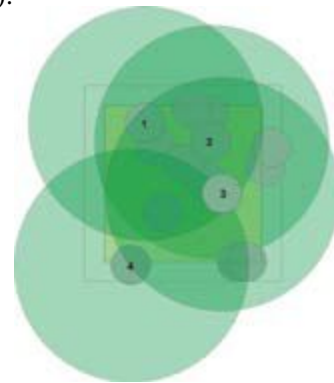
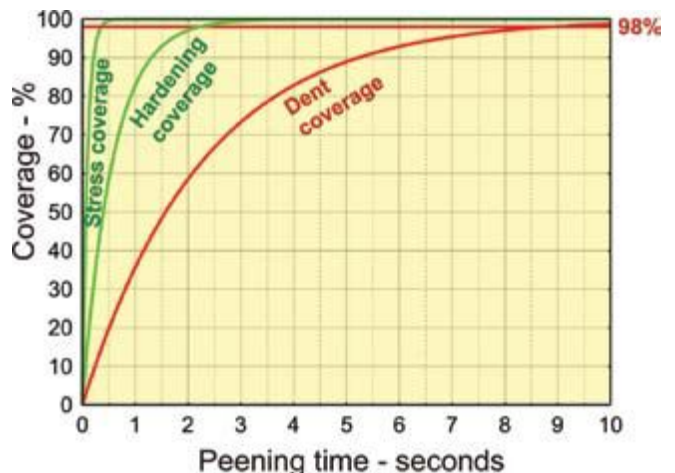

Fig.11. Complete stress coverage with just four dents.
Fig.12. Relative coverage rates for dents, hardening and surface residual stress.
Estimates based on equation (6) quantify residual stress coverage in the same way as those derived for dent coverage and hardening coverage. Such estimates confirm that stress coverage approaches 100% very, very rapidly - as illustrated in fig.12. The values given in Table 2 are astronomically small for any region receiving less than 9 overlapping compressively-stressed zones. A pictorial representation is given as fig.11 where just four dents (of the fourteen that generated 42% coverage in fig.4) have been surrounded by induced effective compressive residual stress zones five times the diameter of each dent. Here we have 100% coverage together with general overlapping of these beneficial compressive stress zones (shown green).
Optimum dent coverage occurs when desirable service properties reach their maximum. It is not, however, the dents themselves that contribute to property improvement. Work-hardening and the development of compressive surface stress are the principal factors that generate property improvement. Dent, hardening and stress coverage proceed together but at vastly different rates as illustrated in fig.12.